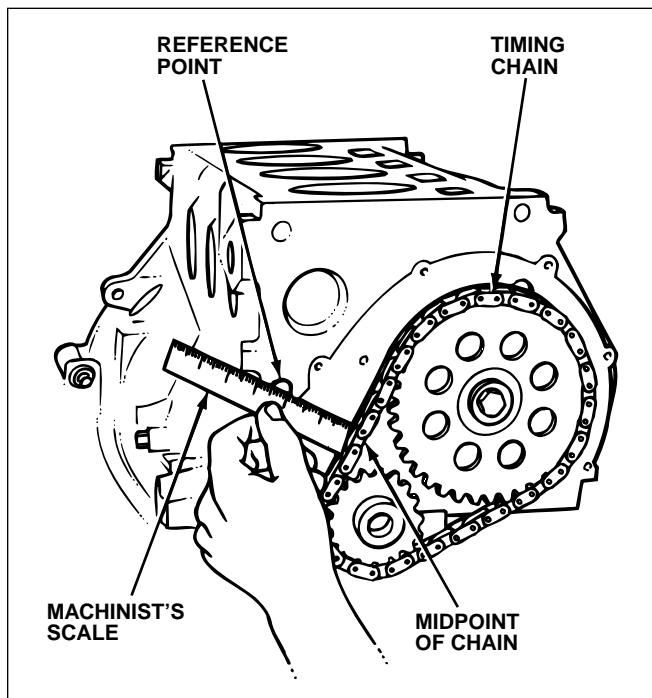

Fig. 2-38. Mark a reference point with all slack taken out of the chain.
2. Mark a reference point on the block face in line with the midpoint of the tensioned side of the chain. Then, measure from the reference point to the chain, figure 2-38